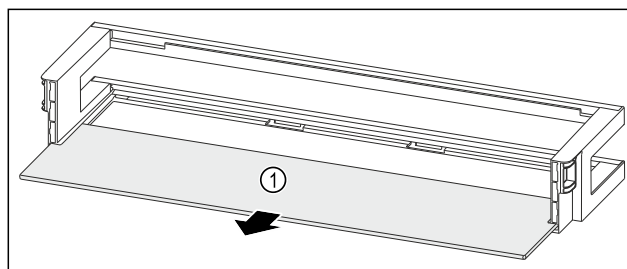

Fig. 96 Door rack with shelf
- ▶ Remove the shelf Fig. 96 (1).